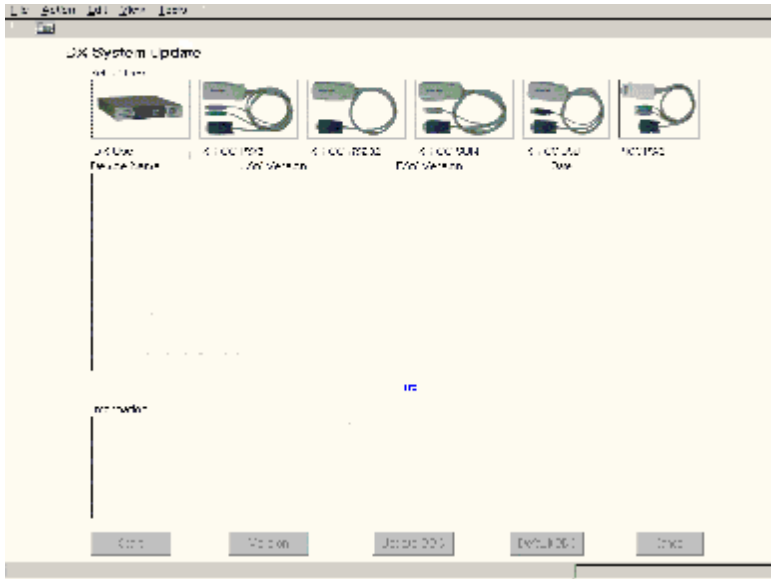

Figure 65 Update window
2. From the DX GUI, select Tools/Update. The Update window appears see Figure 65.